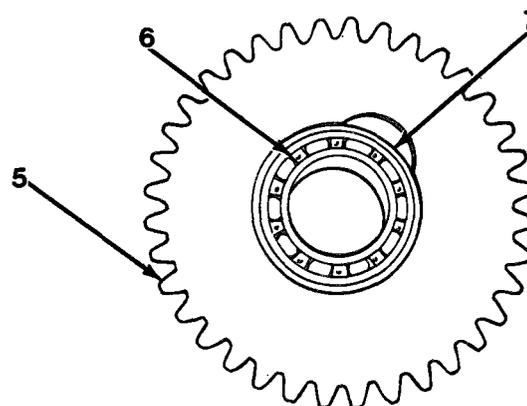

Figure 11-6
22. Install six clutch separator plates (11), clutch plates (10) and clutch plate retainer (9).
23. Install snap ring (8).
24. Install snap ring (7) into forward and rear welded assembly (5, Figure 11-6).